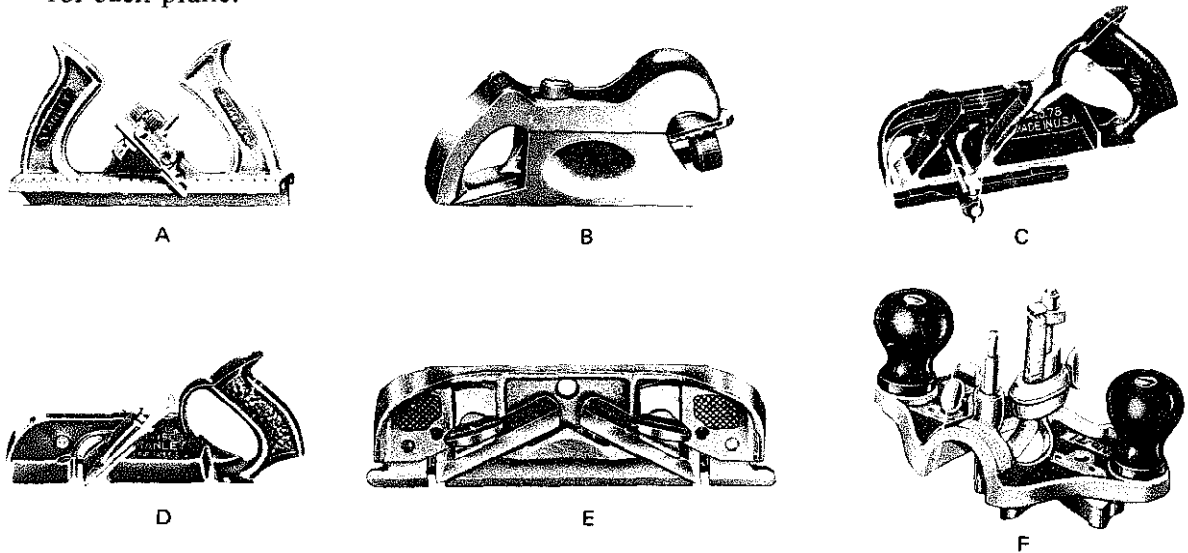

Fig. 8-79
3. Identify each of the planes shown in figure 8-79 and state the adjustments possible for each plane.